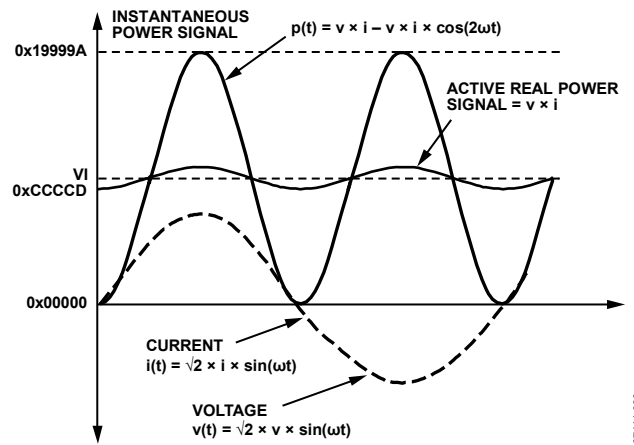

Figure 59. Active Power Calculation
Note that the active power is equal to the dc component of the instantaneous power signal $p(t)$ in Equation 9, that is, VI . This is the relationship used to calculate active power in the ADE5166/ADE5169. The instantaneous power signal $p(t)$ is generated by multiplying the current and voltage signals. The dc component of the instantaneous power signal is then extracted by LPF2 (low-pass filter) to obtain the active power information (see Figure 59).
The ADE5166/ADE5169 also incorporate an active power offset register (WATTOS[15:0], Address 0x20). It is a signed, twos complement, 16-bit register that can be used to remove offsets in the active power calculation (see Figure 59). An offset can exist in the power calculation due to crosstalk between channels on the PCB or in the IC itself. The offset calibration allows the contents of the active power register to be maintained at 0 when no power is being consumed.
As mentioned in the Active Energy Calculation section, the discrete time sample period (T) for the accumulation register is 1.22 μs (5/MCLK). With full-scale sinusoidal signals on the analog inputs and the WGAIN register (Address 0x1D) set to 0x000, the average word value from each LPF2 is 0xCCCCD (see Figure 59). The maximum positive value that can be stored in the internal 49-bit register is 2⁴⁸ (or 0xFFFF,FFFF,FFF) before it overflows. The integration time under these conditions when WDIV = 0 is calculated in the following equation: